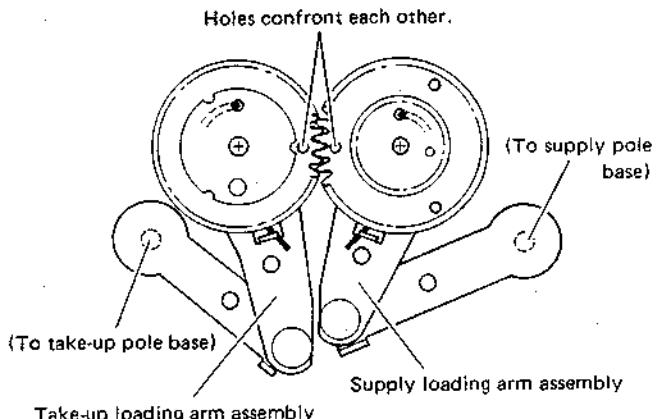

Fig. 1-3-2 Loading arm assembly (2)
- Install the take-up loading arm assembly and the supply loading arm assembly so that the holes on the loading gears face each other, as shown in Fig. 1-3-2. Do not move the loading arm assemblies from this position for the next step.